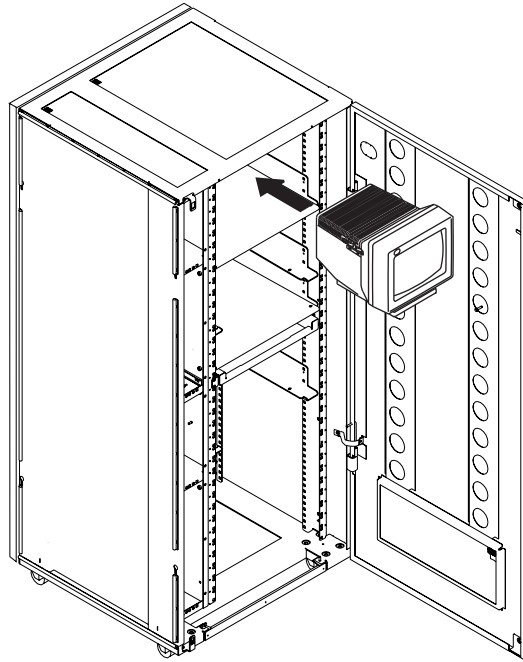

Figure 1-5. Installing the Display Screen in the Controller Expansion (Front Side)
6. ____ Slide the display screen on the top of the controller expansion (refer to Figure 1-5).